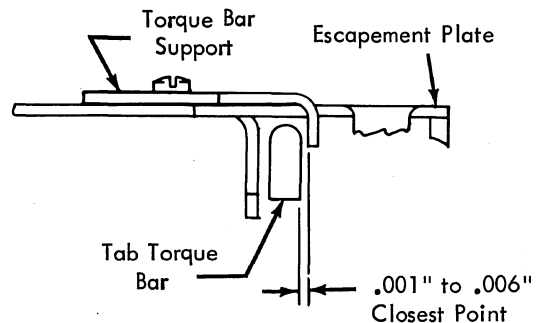

FIGURE 173.5. Tab Torque Bar Support (Early)
8. Tab Torque Bar Support (Early) (Fig. 173.5) - With the tab torque bar at rest, position the torque bar support (relative to the escapement plate) to clear the torque bar by .001" to .006".